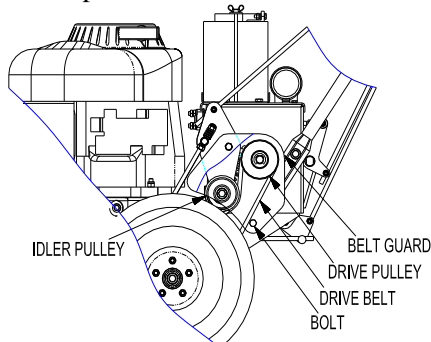

FIG 12
- Adjusting control rod: Remove hair pin on the top of control rod, pull out the control rod from steering lever, turn the control rod so that the length of two control rods is the same and reinstall all parts in proper order. (See FIG 12)
- When the mower pulls left or right or is not driving in line in normal conditions, the steering linkage on left, right or both sides needs to be adjusted. See FIG 12.